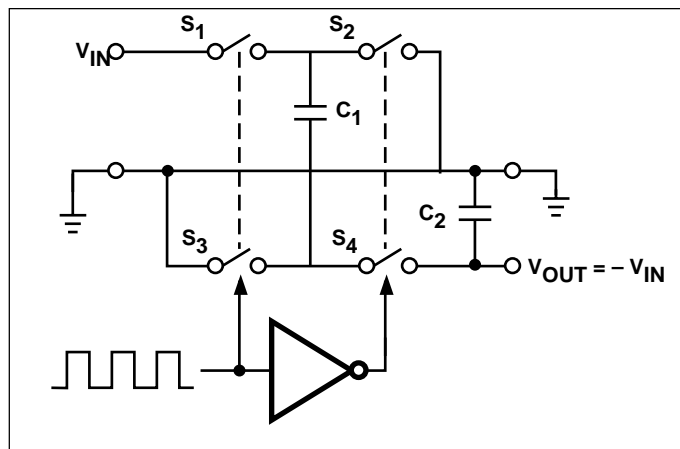
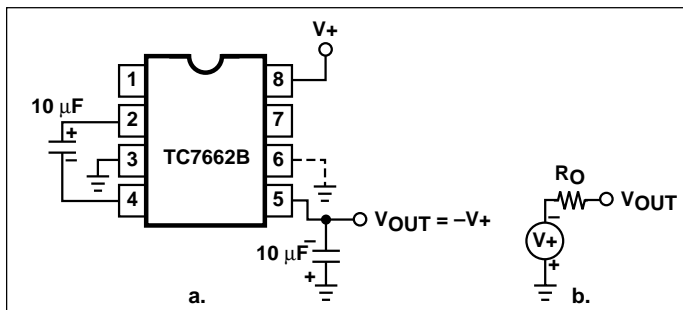
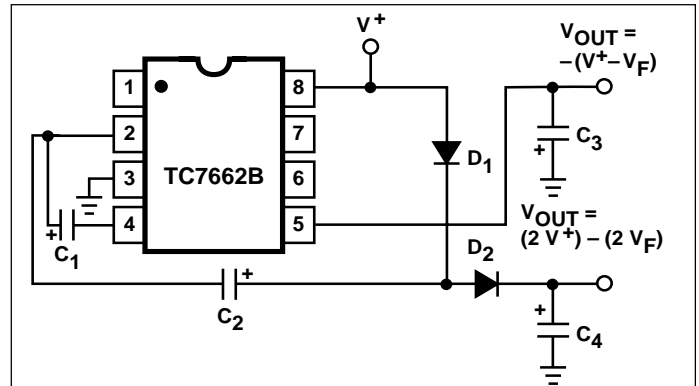

Figure 2. Idealized Negative Voltage Capacitor
Figure 3. Simple Negative Converter and its Output Equivalent
Figure 10. Combined Negative Converter and Positive Doubler
### ELECTRICAL CHARACTERISTICS: $V^+ = 5V$ , $T_A = +25^\circ C$ , OSC = Free running, Test Circuit Figure 2, Unless Otherwise Specified.
The TC7662B contains all the necessary circuitry to complete a negative voltage converter, with the exception of two external capacitors which may be inexpensive 1μF polarized electrolytic types. The mode of operation of the device may be best understood by considering Figure 2, which shows an idealized negative voltage converter. Capacitor  $C_1$  is charged to a voltage  $V^+$  for the half cycle when switches  $S_1$  and  $S_3$  are closed. (Note: Switches  $S_2$  and  $S_4$  are open during this half cycle.) During the second half cycle of operation, switches  $S_2$  and  $S_4$  are closed, with  $S_1$  and  $S_3$  open, thereby shifting capacitor  $C_1$  negatively by  $V^+$  volts. Charge is then transferred from  $C_1$  to  $C_2$  such that the voltage on  $C_2$  is exactly  $V^+$ , assuming ideal switches and no load on  $C_2$ . The TC7662B approaches this ideal situation more closely than existing non-mechanical circuits.
In the TC7662B, the four switches of Figure 2 are MOS power switches;  $S_1$  is a P-channel device and  $S_2$ ,  $S_3$  and  $S_4$  are N-channel devices. The main difficulty with this approach is that in integrating the switches, the substrates of  $S_3$  and  $S_4$  must always remain reverse biased with respect to their sources, but not so much as to degrade their "ON" resistances. In addition, at circuit start up, and under output short circuit conditions ( $V_{OUT} = V^+$ ), the output voltage must be sensed and the substrate bias adjusted accordingly. Failure to accomplish this would result in high power losses and probable device latchup.
where  $V_1$  and  $V_2$  are the voltages on  $C_1$  during the pump and transfer cycles. If the impedances of  $C_1$  and  $C_2$  are relatively high at the pump frequency (refer to Figure 2) compared to the value of  $R_L$ , there will be a substantial difference in voltages  $V_1$  and  $V_2$ . Therefore, it is desirable not only to make  $C_2$  as large as possible to eliminate output voltage ripple, but also to employ a correspondingly large value for  $C_1$  in order to achieve maximum efficiency of operation.
The majority of applications will undoubtedly utilize the TC7662B for generation of negative supply voltages. Figure 3 shows typical connections to provide a negative supply where a positive supply of +1.5V to +15V is available. Keep in mind that pin 6 (LV) is tied to the supply negative (GND) for supply voltages below 3.5 volts.
The output characteristics of the circuit in Figure 3 can be approximated by an ideal voltage source in series with a resistance as shown in Figure 3b. The voltage source has a value of  $-(V_+)$ . The output impedance ( $R_O$ ) is a function of the ON resistance of the internal MOS switches (shown in Figure 2), the switching frequency, the value of  $C_1$  and  $C_2$ , and the ESR (equivalent series resistance) of  $C_1$  and  $C_2$ . A good first order approximation for  $R_O$  is:
Figure 10 combines the functions shown in Figures 3 and 9 to provide negative voltage conversion and positive voltage doubling simultaneously. This approach would be, for example, suitable for generating +9V and -5V from an existing +5V supply. In this instance, capacitors  $C_1$  and  $C_3$  perform the pump and reservoir functions, respectively, for the generation of the negative voltage, while capacitors  $C_2$  and  $C_4$  are pump and reservoir, respectively, for the doubled positive voltage. There is a penalty in this configuration which combines both functions, however, in that the source impedances of the generated supplies will be somewhat higher due to the finite impedance of the common charge pump driver at pin 2 of the device.